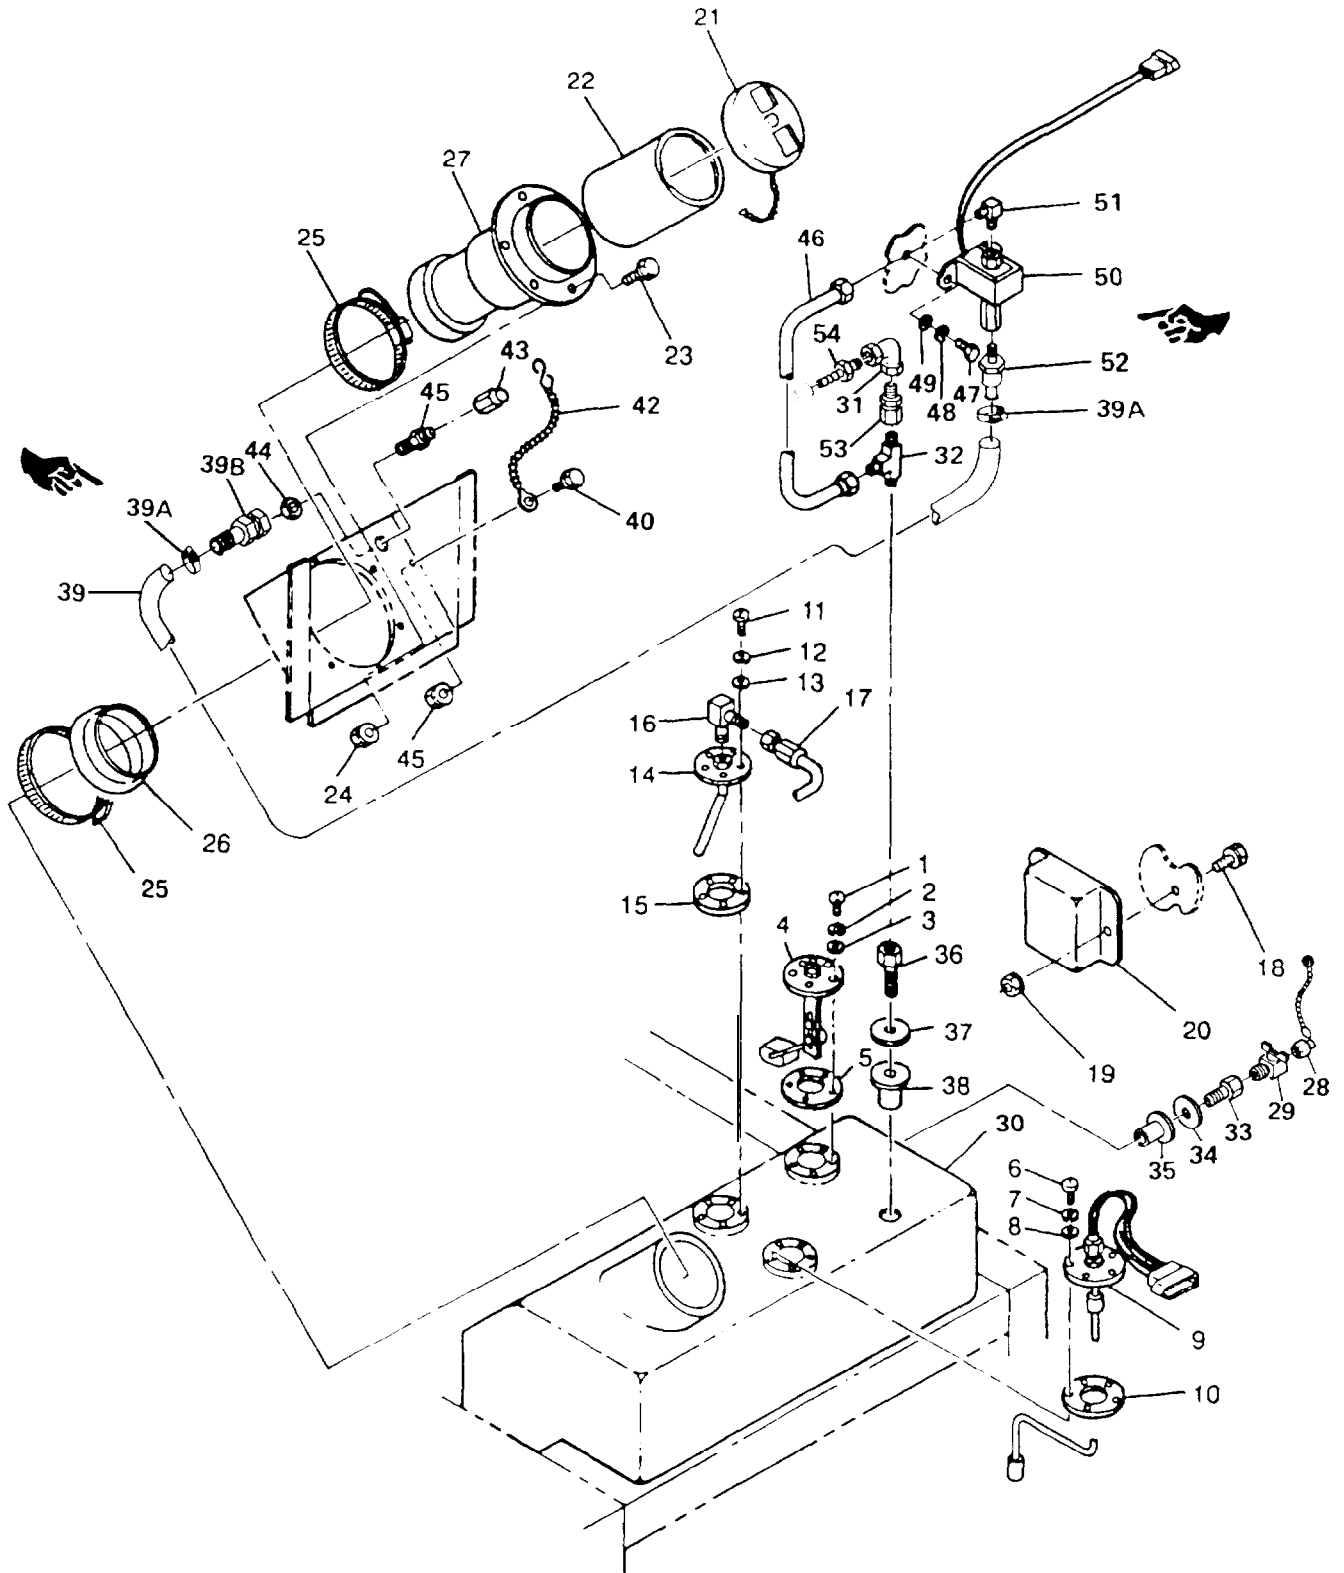

FIGURE 2-21. Fuel Tank, Switches, and Auxiliary Fuel Pump
- d. Disconnect fuel line (17, FIGURE 2-21) from fitting (16) and cap line.
- e. Remove screws (11), lockwashers (12), washers (13), fuel pickup (14), and gasket (15) from fuel tank. Cover fuel tank opening.
- f. Remove fitting (16) from fuel pickup (14).
- a. Remove cover in fuel tank opening clean, make flat, and smooth mating surfaces to gasket (15, FIGURE 2-21) ensuring for foreign material enters fuel tank. Apply sealant (Item 20, Appendix C) to both sides of gasket (15).
- b. Install gasket (15) and fuel pickup (14) in fuel tank with screws (11), lockwashers (12), and washers (13).
- c. Install fitting (16) in fuel pickup (14).
- d. Connect fuel line (17) to fitting (16).
- d. Tag and disconnect fuel float module (20, FIGURE 2-21 ) electrical connector (J12) from fuel float switch electrical connector (P12).
- d. Tag and disconnect electrical connector from fuel float module (20, FIGURE 2-21).
- e. Remove bolts (18), nuts (19), and fuel float module (20) from generator set.
- a. Install fuel float module (20, FIGURE 2-21) in generator set with bolts (18) and nuts (19).
- c. Identify fuel line to be removed as shown in FIGURE 2-21 or FIGURE 2-22.
- d. Remove filler cap (21, FIGURE 2-21). Rotate tube (22) one quarter turn counterclockwise, and remove from filler neck (27).
- e. Remove bolts (23) and nuts (24).
- f. Remove clamps (25), rubber collar (26), and filler neck (27) from fuel tank opening.
- c. Inspect rubber collar (26, FIGURE 2-21) for cracks, wear, or other damage.
- d. Inspect filler neck (27), clamps (25), tube (22), and cap (21) for corrosion, cracks, or other damage.
- a. Position filler neck (27, FIGURE 2-21) onto fuel tank opening.
- b. Install rubber collar (26) and clamps (25) onto filler neck (27) and fuel tank opening.
- c. Install bolts (23) and nuts (24).
- d. Install filler cap (21) and tube (22).
- c. Remove cap (28, FIGURE 2-21), open fuel drain valve (29) and drain all fuel into suitable container.
- d. Remove fuel drain valve (29) from fitting (33) at left side skid.
- a. Install fuel drain valve (29, FIGURE 2-21) in fitting (33) at left side skid.
- b. Install cap (28) on valve (29). Ensure fuel drain valve (29) is closed.
- f Remove fuel tank (30, FIGURE 2-21) from generator set
- g Remove fitting (54), elbow (31), reducer (53), and fitting (32) from fuel tank fitting (36)
- h Remove fittings (33) and (36), washers (34) and (37), and bushings (35) and (38) from fuel tank (30).
- i Remove fuel float switch, paragraph 2-77.2, fuel level sender, paragraph 2-76.2. and fuel pickup, paragraph 2-78.1 from fuel tank (30).
- a Install fuel level sender, paragraph 2-76.4, fuel float switch, paragraph 2-77.4, and fuel pickup paragraph 2-78.3 in fuel tank (30, FIGURE 2-21).